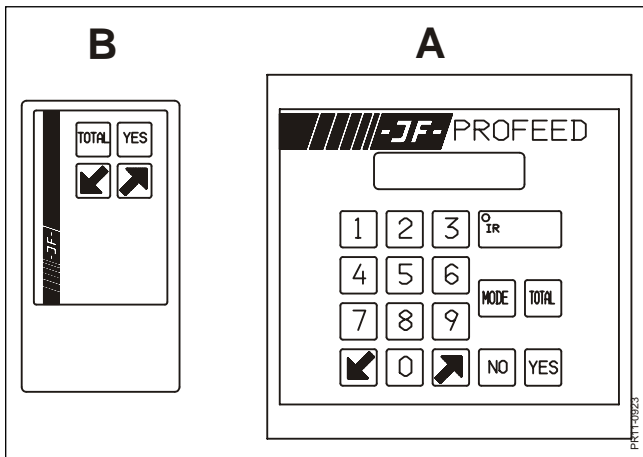

Fig. 7-1
Fig. 7.1 PROFEED is an electronic unit (A), to be built into the existing weighing instrument on your JF-Feeder, unless the Feeder has been delivered with PROFEED as standard. A 4-channel remote control (B) is delivered as standard, which ensures that the user has complete control of the system during filling of forage. PROFEED has 2 main functions: